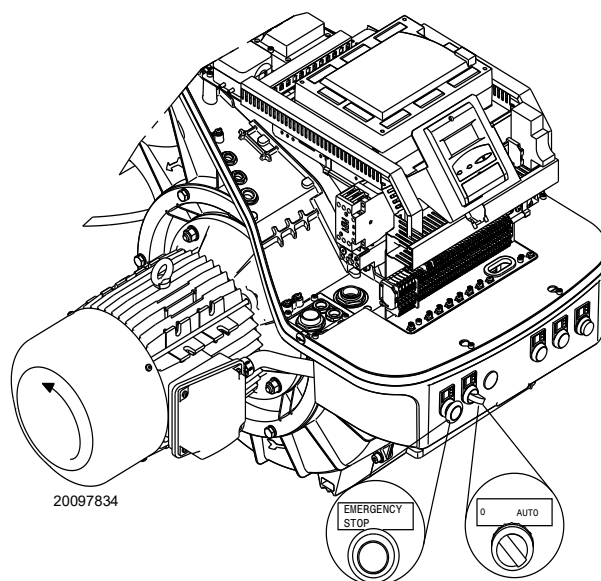

Fig. 25
Close the thermostats/pressure switches. Turn the switch of Fig. 25 to position “**AUTO**”.
Make sure that the lamps or testers connected to the solenoids, or indicator lights on the solenoids themselves, show that no voltage is present. If voltage is present, stop the burner **immediately** and check the electrical wiring. When the burner starts, check the direction of the motor rotation, as indicated in Fig. 25.
- place the switch of Fig. 25 in position “**0**” and wait for the flame control to carry out the switch-off phase;